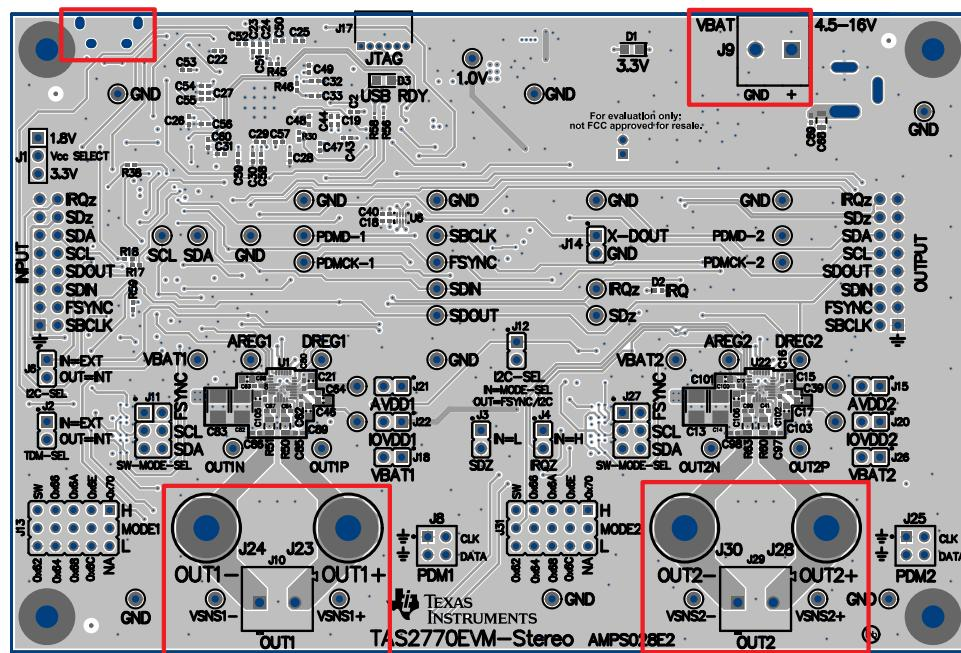

图 3. TAS2770EVM-STEREO Stereo Configuration
3. Connect a second speaker to J29 on the EVM. Alternatively, J28 and J30 can be used for speaker connections (see 图 3).